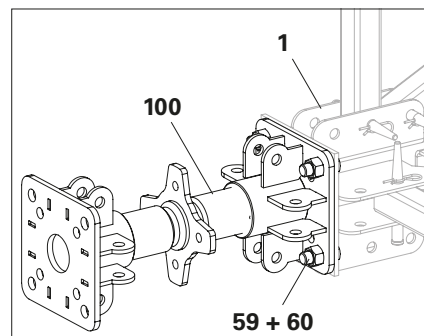

Fig. A1.20a
1. Mount the Spindle ATS 360-550 (**100**) with the yellow side pointing to the tower on the Prop Base ATS (**1**) using 4x bolt ISO 4017 M24 x 60-8.8 (**59**) and nut ISO 4032 M24-8 (**60**) respectively. (Fig. A1.20a)